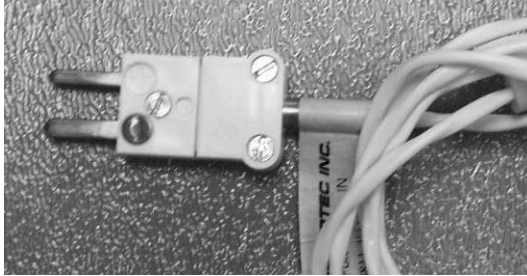

FIGURE 8
8. The plug on the Product Probe has a positive (+) and negative (- in red) prongs that fits into the receptacle. The negative prong will be on the bottom as shown in **Figure 8**.